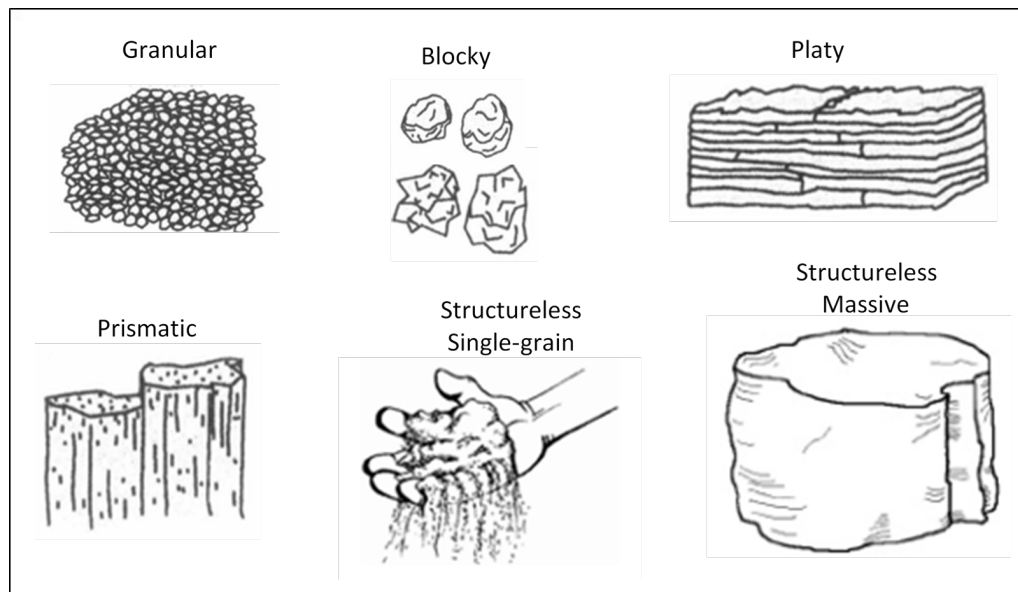

Figure 3-5. Examples of soil structure.
**Soil structure** is the arrangement of individual sand, silt, and clay particles into clusters of particles called soil *aggregates*. Aggregates occur in different shapes and patterns, resulting in different kinds of soil structure. Examples include granular, blocky, platy, prismatic, structureless–single grained, and structureless–massive (Figure 3-5).